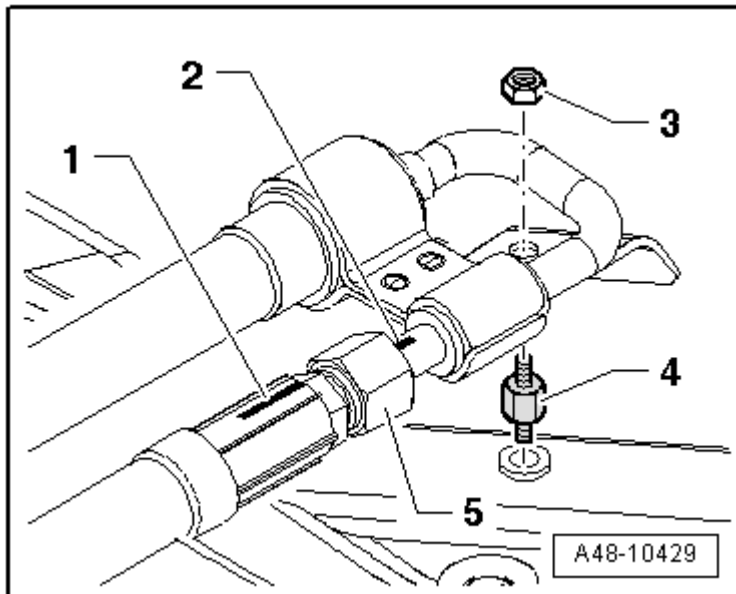

Fig. 24: Pressurized Line To Crossbrace
7. Pressurized line to crossbrace, refer to **Fig. 24**
8. Pressure line connection installation location, refer to **Fig. 24**